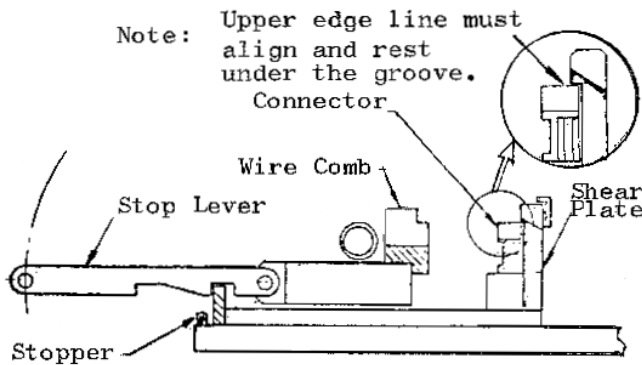
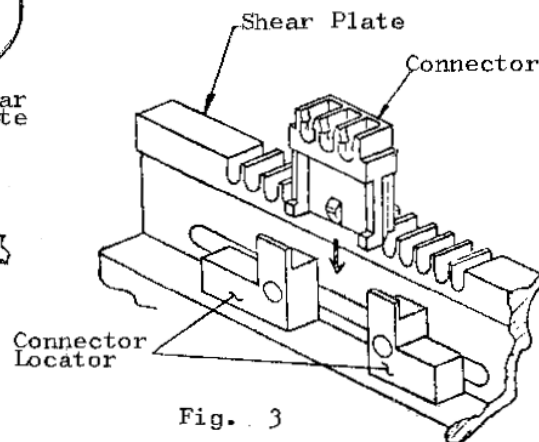

Fig. 2
Fig. 3
- (1) Raise stop lever and pull it back toward you until the first notch is reached, where again raising it upward, pull back to open the connector placing area wider. When the second notch is reached, just hook down the lever to **keep** hold the target area open.
- (2) Place the desired connector you prepared, into the connector placing area, and have it resting snug in position. (See Fig. 2 and Fig. 3.)